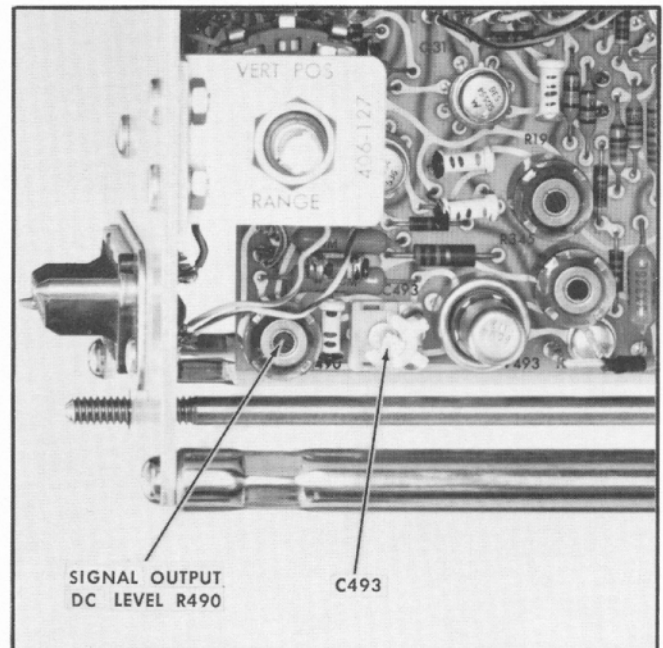
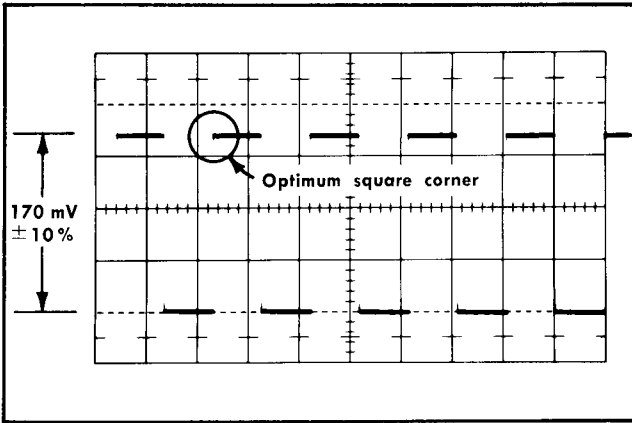

Fig. 6-43. Location of adjustments for steps 28 and 30.
Fig. 6-44. Typical display obtained on the test oscilloscope when checking the SIGNAL OUTPUT gain and adjustment of C493.
- f. Check that the trace on the test oscilloscope is centered. If it is not, adjust the SIGNAL OUTPUT DC LEVEL control (R490; see Fig. 6-43) to return the trace to graticule center (zero volts indication on the test oscilloscope).
- b. Check the test oscilloscope display for an amplitude of 170 mV peak to peak within a tolerance of $\pm 10\%$, 3.4 cm ± 3.4 mm (see Fig. 6-44).
- a. Check the upper front corner on the test oscilloscope display. The waveform should appear similar to the one shown in Fig. 6-44. If the top of the waveform is not flat, adjust C493 (see Fig. 6-43) for optimum square waveshape.